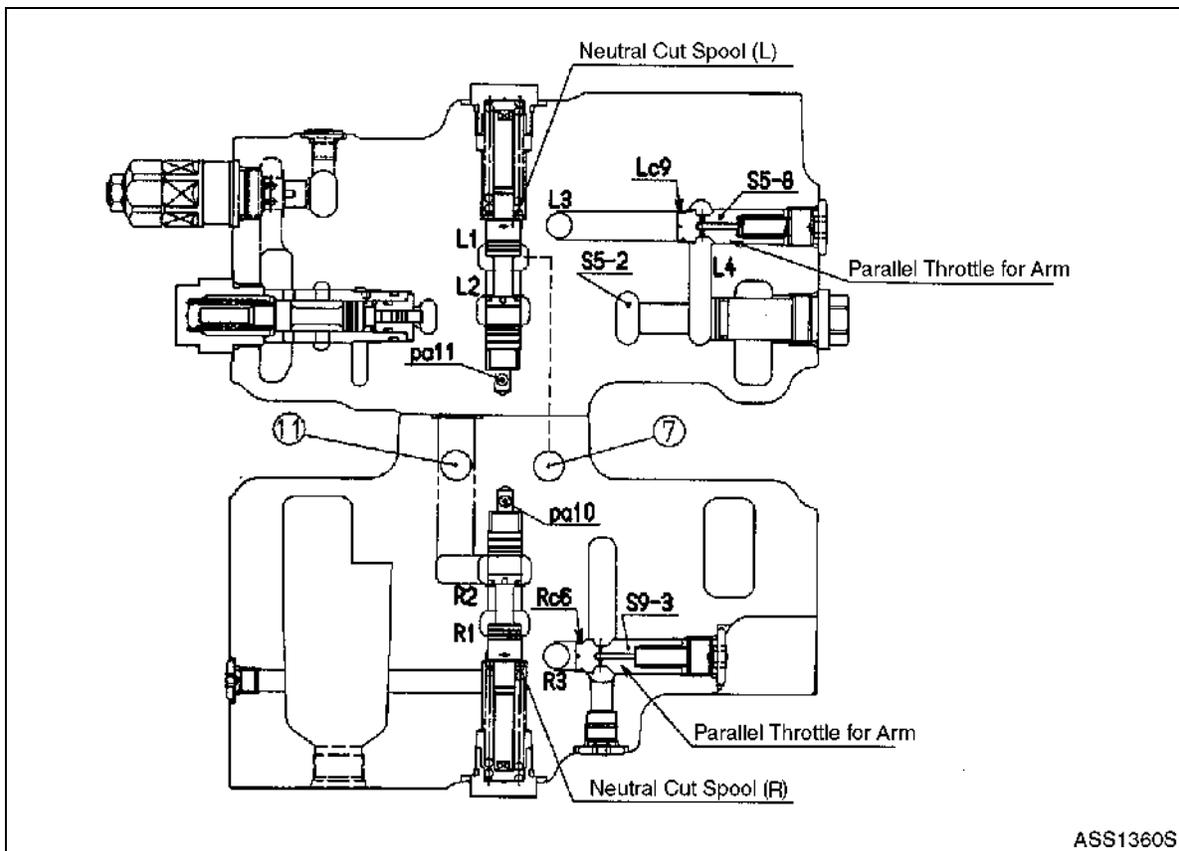

Figure 11
### Neutral-cut Spool Shifting (Figure 11)
### Parallel Throttle for Arm (Figure 11)
2. The parallel circuit of arm 2 (section 9), after narrowing at the throttle (Rc6) in poppet (S9-3) allows oil from parallel passage (R3), to join with oil in passage (S9-2, Figure 11).